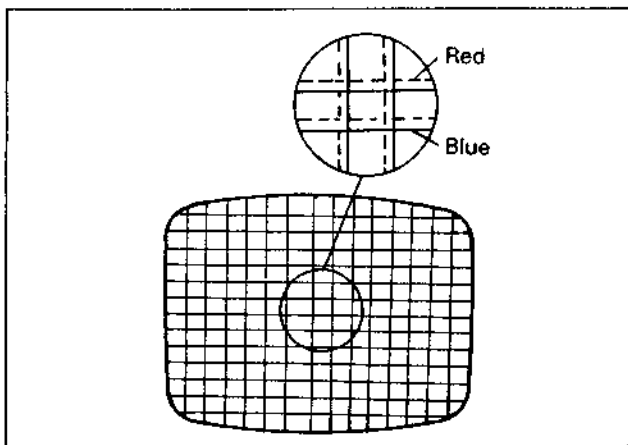

Fig. 6-5
4. Turn the two 4 pole convergence magnets and adjust so that red and blue become overlapped throughout the picture area to yield magenta. (Fig. 6-5)